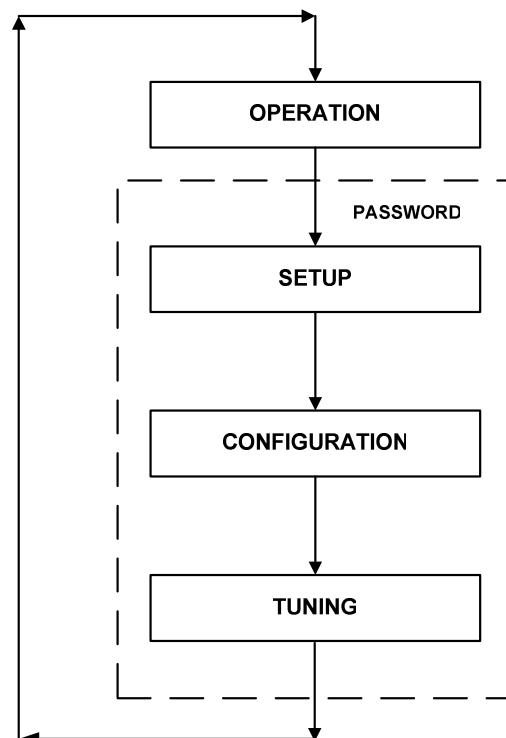

Figure 3-2. Menu Structure
The Control Panel incorporates an extensive menu structure which permits the operator to set up, and configure the unit. The menu structure consists of four major menu categories as shown in Figure 3-2. Each of the menus shown, contain options which permit operating parameters to be viewed or changed. The menus are protected by a password to prevent unauthorized use.
2. Press the **MENU** key. The display will show the Setup Menu, which is the next menu category shown in Figure 3-2. This menu contains the Password option which must be entered if other menu options will be changed.